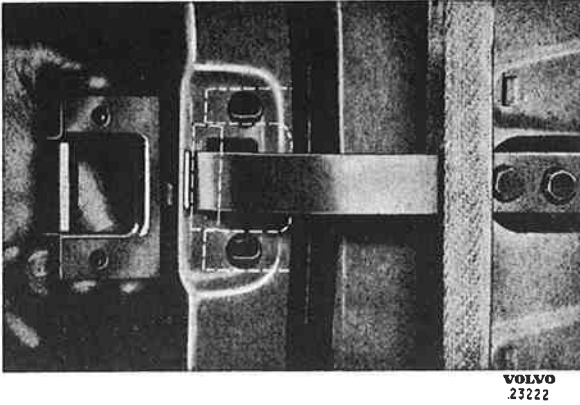

Fig. 14. Door check
1. Remove the door check, see Fig. 14. The attaching bolts for this are accessible after the side insulation material on the body has been removed. The door check can also be removed by unscrewing the guide roller and pulling it off. In order to get at the guide roller, the door upholstery must be removed, see under "Removing the door handle and upholstery".